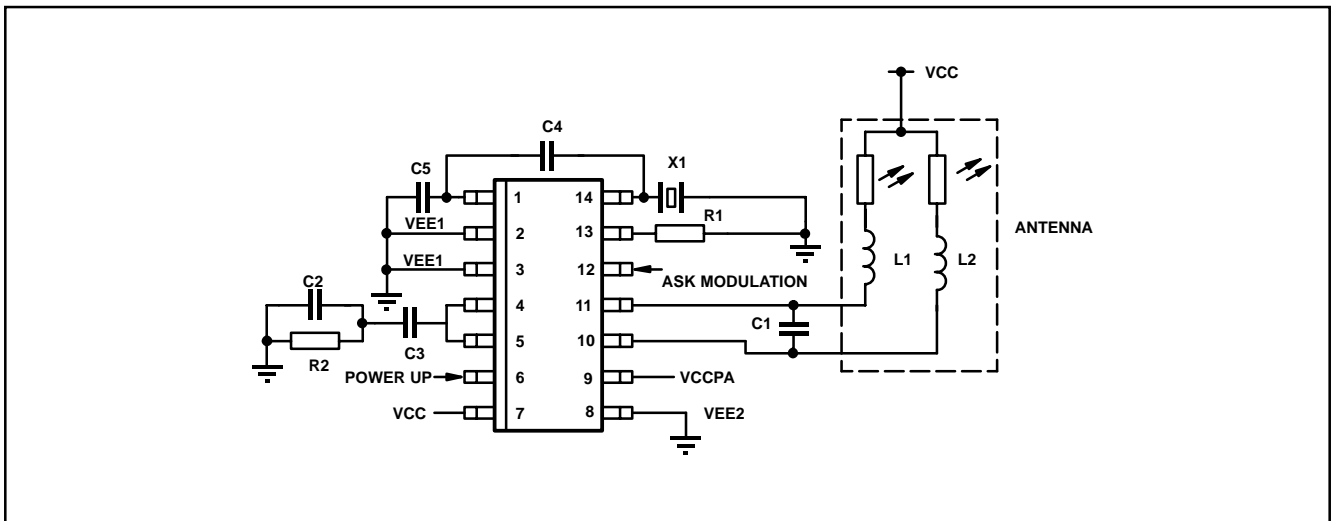

Figure 6 Application diagram
3. Regulatory issues demand that transmission does not take place until the PLL has acquired lock and the VCO is operating at its final output frequency. This requirement demands that pin TXEN is set high at least Txe ms prior to the transmission of any data. This value is dependent on the PLL loop bandwidth and hence on the value of the external loop filter component values. The specification value above is for the loop filter components shown in the applications diagram (Figure. 6)
A single transistor Colpitts crystal oscillator provides a reference clock for the PLL. The oscillator is configured for parallel resonant operation in the fundamental mode (typical operating frequency of 3–7MHz). The crystal is connected between pins XTAL2 and VEE1 with external components as shown in Figure 6.
The input signal at pin DATA produces amplitude shift key (ASK) modulation of the VCO output. This is achieved by on-off keying of the bias current in the output power amplifier stage. The output of the PA is a balanced output (pin OUT and OUTB) and is current source driven (open collector outputs). The outputs of which should be D.C. referenced to a positive supply voltage (anticipated to be Vcc in most applications). The current source outputs can drive a PCB antenna directly (Figure 6) or if a higher output power is required on limited supply headroom via a simple impedance transforming network. A balanced output stage is used as it automatically suppresses the even order harmonics of the fundamental. In order to obtain the benefits of this output stage it is essential to use a balanced antenna.